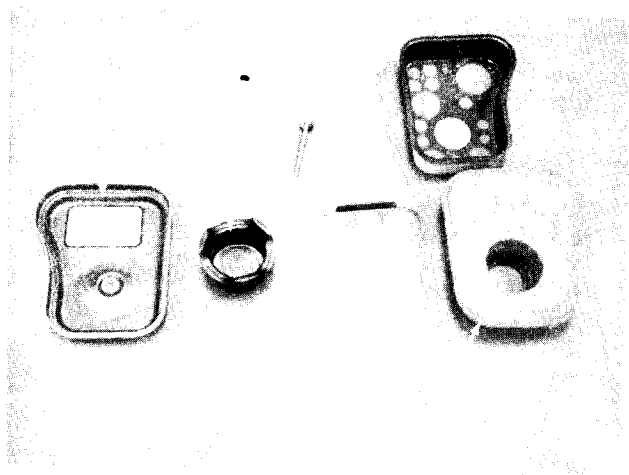

FIGURE 45.
- F. Coat element with two tablespoons of engine oil, squeeze to distribute and remove excess oil. See figure 45.